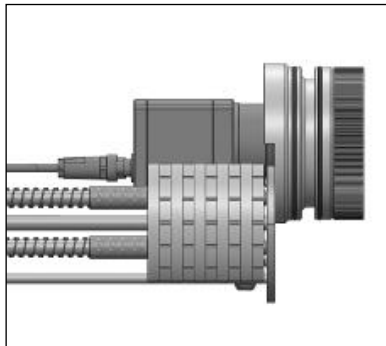
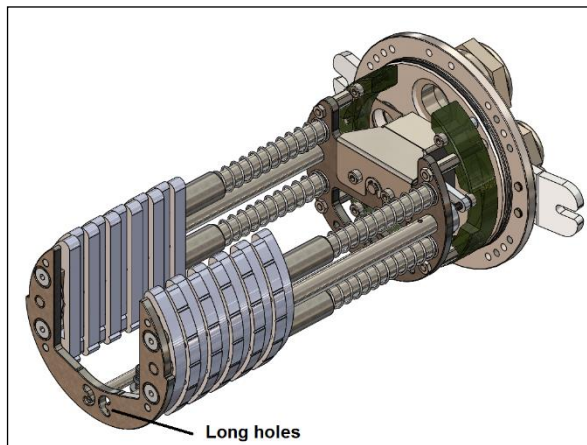
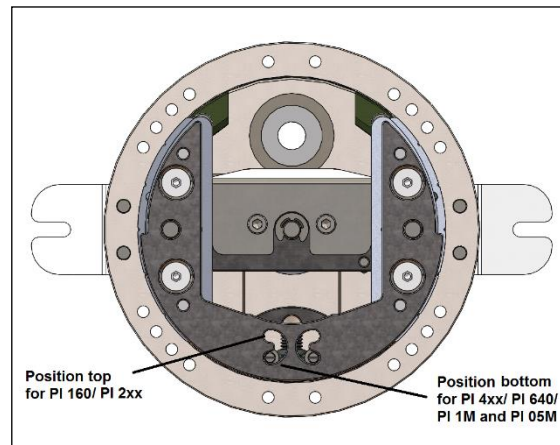
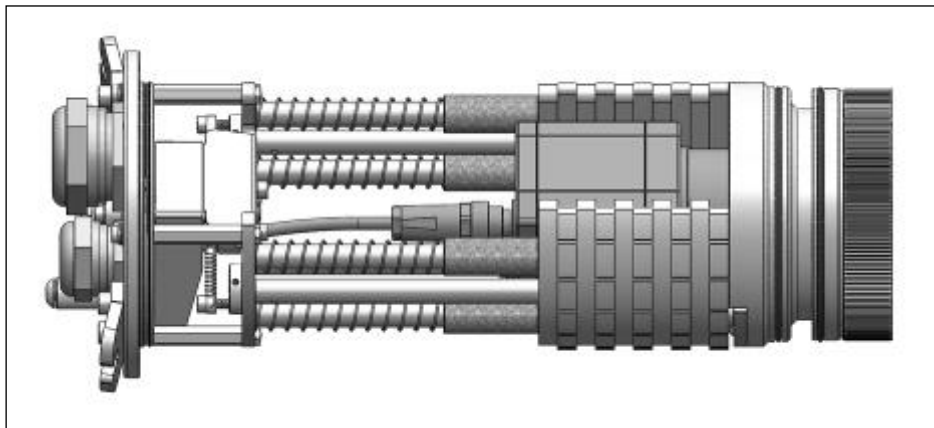

Figure 25: Inserting of the focusing unit
Figure 26: Long holes on the bottom of the chassis
Figure 27: Positioning the two bars in the slot for different cameras
Figure 28: Focusing unit with camera
2. Seat the focusing unit or front part in the chassis (**Figure 25**). Pay attention to the correct positioning of the two bars at the bottom of the chassis. These must be moved in the slot for the respective camera used (**Figure 26**, **Figure 27**). Position it as shown in **Figure 28**, by pushing it to the bottom.